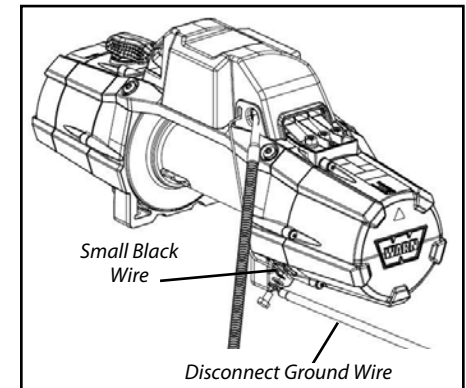

Figure 1
2. Disconnect the ground cable on the under side of the winch (see figure 1). Make sure the small black wire that connects to the control pack is disconnected and hanging freely.